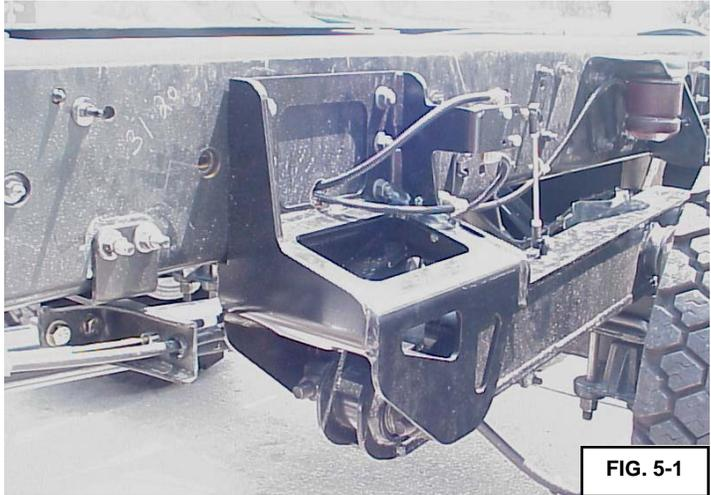

FIG. 5-1
1. Unbolt Parking brake cable from driver's side of frame, and remount using the supplied PARKING BRAKE RELOCATION BRACKET. This will offset the cable under the frame to allow for clearance from the FRONT HANGER. See Fig. 5-1, 5-2, 5-5, 5-4 (See Table 10-1 for appropriate Torque).
2. Fasten the FRONT HANGER to the frame using (6) 1/2 x 1 3/4 UNC FLANGE BOLTS and (6) 1/2 UNC TOP LOCK FLANGE NUTS, supplied with kit. See Fig. 5-1, 5-2. (See Table 10-1 for appropriate Torque).
2. Check all clearance points and all alignments. See Figure 5-1 for details.